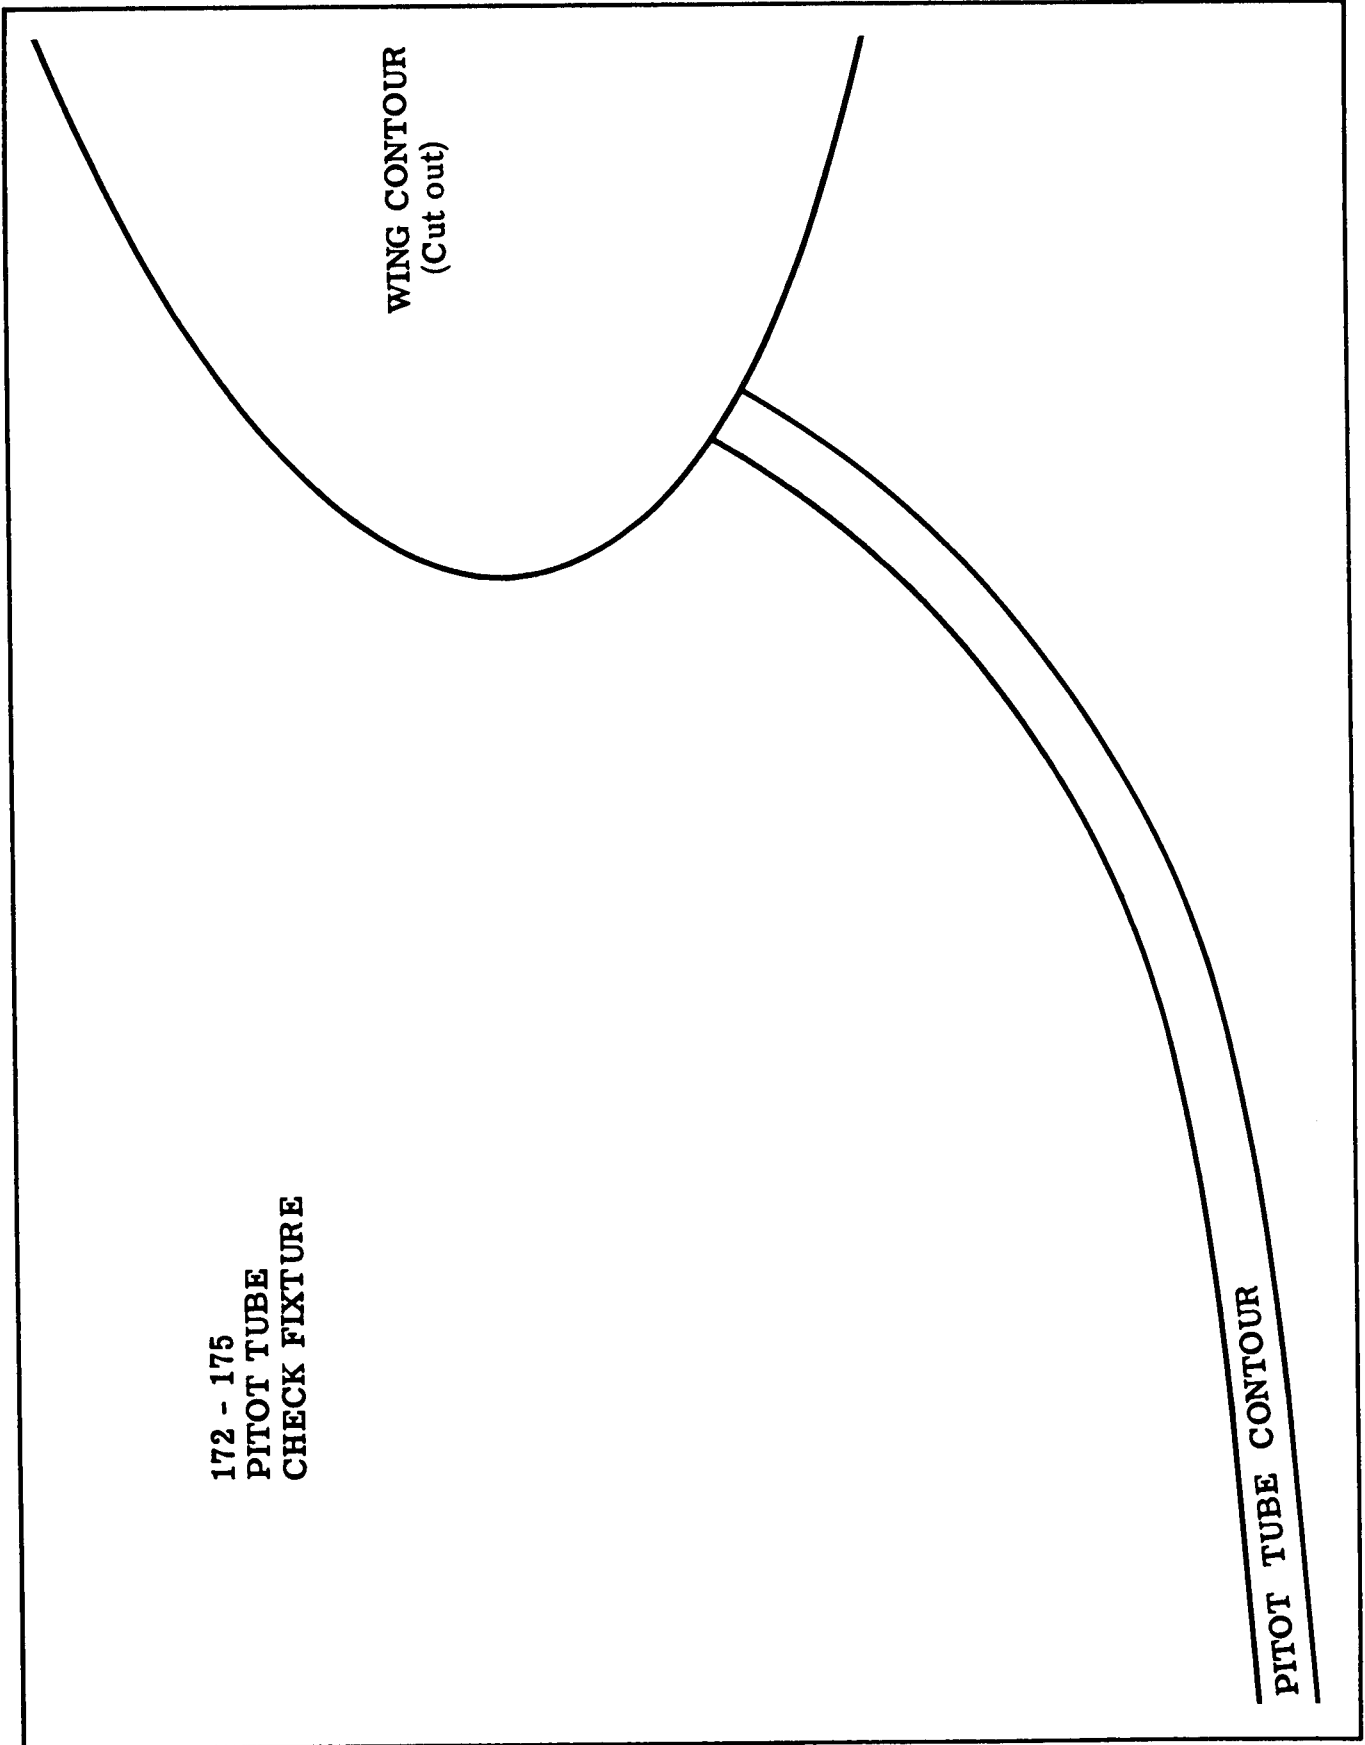
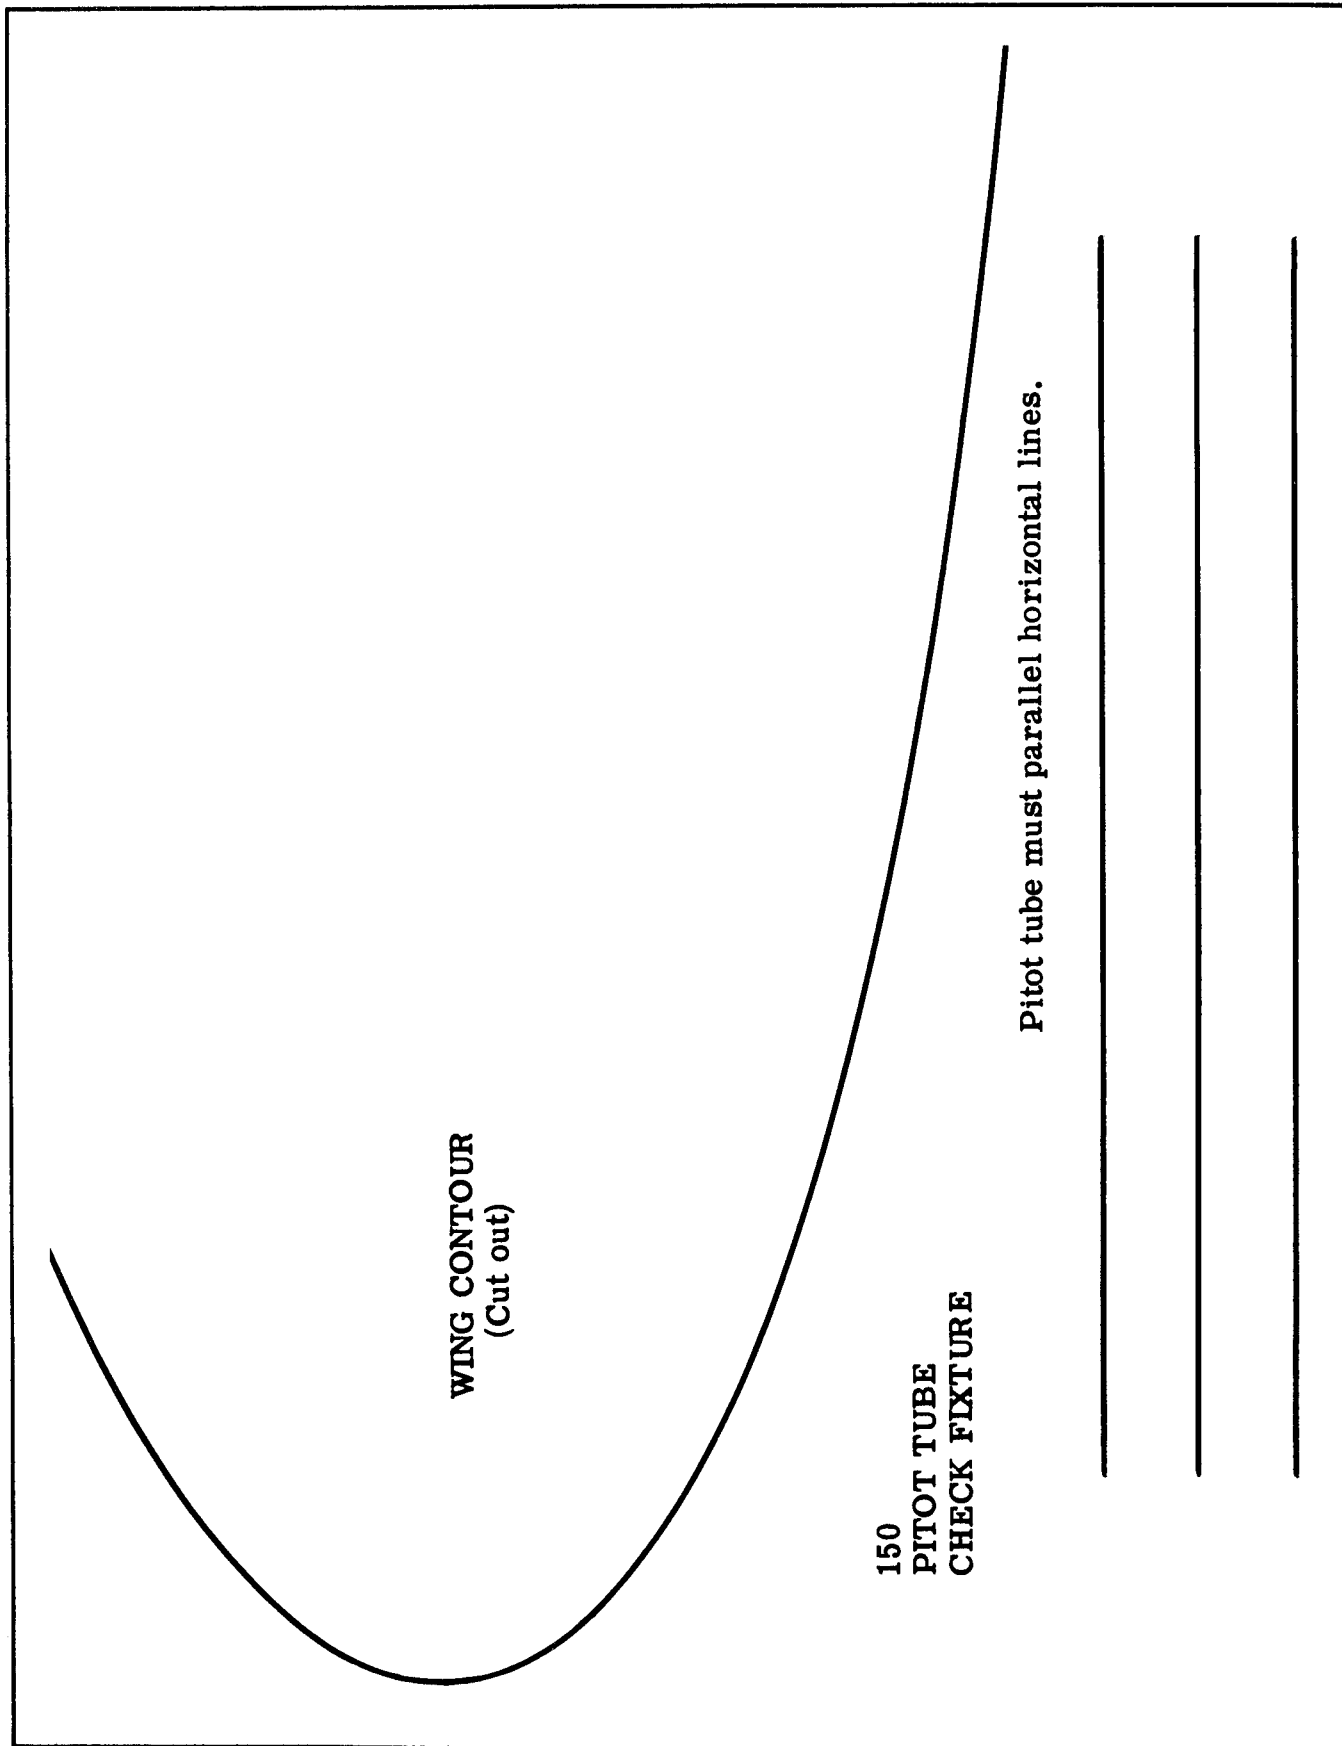

Figure 16-3. Pitot Tube Alignment Template - Models 172 and 175
Figure 16-4. Pitot Tube Alignment Template - Model 150
**16-13. ALIGNING PITOT TUBE.** For correct airspeed indications the pitot tube on the 150, 172 and 175 series must be properly aligned, so that the open end of the tube is perpendicular to the vertical axis and parallel to the longitudinal axis of the airplane. For the 172 and 175, a template like the one shown in figure 16-3 will prove the most convenient means of checking this alignment. Fit the template over the wing leading edge and bend the tube if necessary so that its contour falls along the pitot tube line on the template. The tube should parallel a straightedge placed along the row of wing rib rivets just outboard of the tube. The pitot tube on the 150 likewise should parallel the row of wing rib rivets. Its contour should be checked with a template made to the pattern in figure 16-4. The template fits over the leading edge of the wing and the pitot tube should parallel one of the straight lines on the template. Both illustrations of pitot tube contour templates have been drawn carefully to actual size, so that they may be traced directly on a sheet of stiff plastic, plywood or metal. Place a piece of carbon paper between the printed page and the template material and trace the contours.